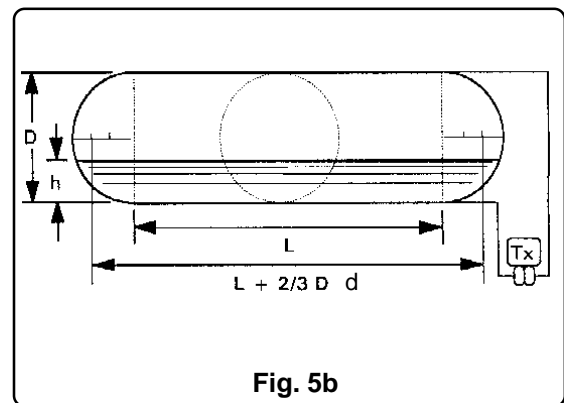

Fig. 5b
b) Cylindrical vessel with hemispherical ends (see Fig. 5b). Transmitter measuring the whole vessel height.